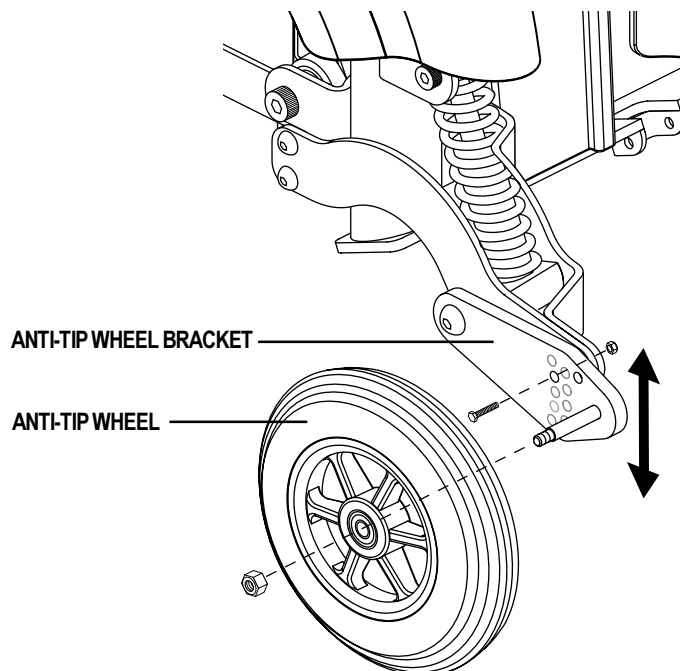

Figure 18. Anti-Tip Wheel Assembly
1. Remove the anti-tip wheel. See figure 18.
2. Remove the nut and bolt on the anti-tip bracket. See figure 18.